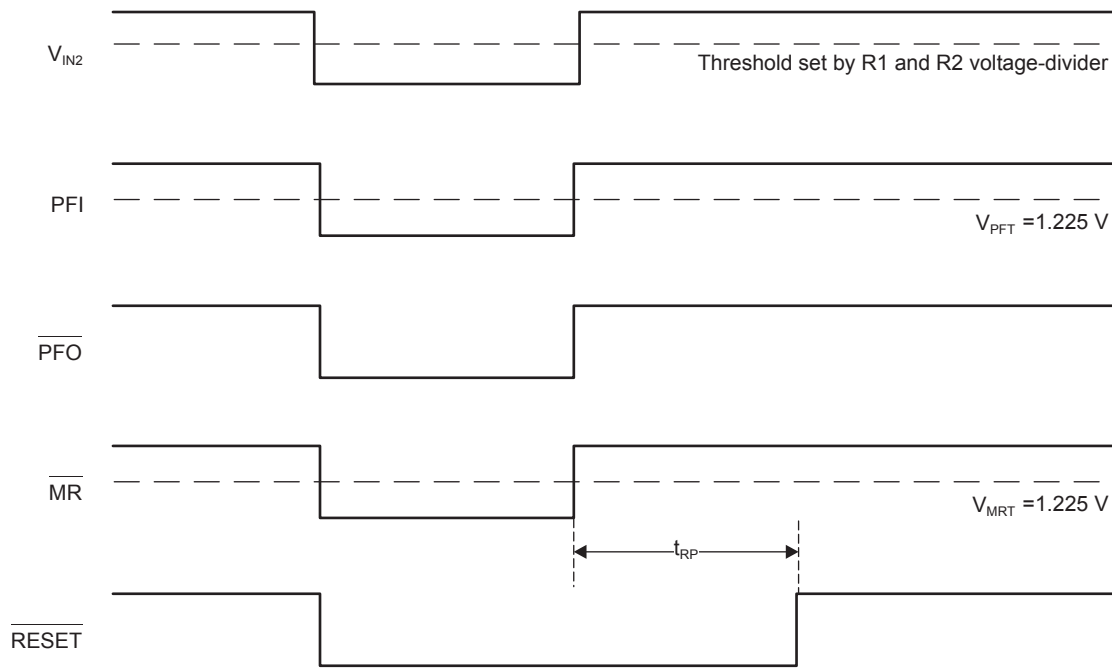

Figure 1-16. Example timing diagram for power-fail and manual reset.
**Figure 1-15** shows an example application circuit for the LM3710, while **Figure 1-16** shows an example timing diagram of the LM3710 with examples of the features reviewed so far.
The timing diagram in **Figure 1-16** shows an example of monitoring a second voltage input (VIN2). When the VIN2 connected to the PFI pin goes low, the PFO pin drops low, causing the MR pin to drop low, which then triggers a reset. There are many ways to use the power-fail and manual reset features, so it is up to you to decide what you need for your application.